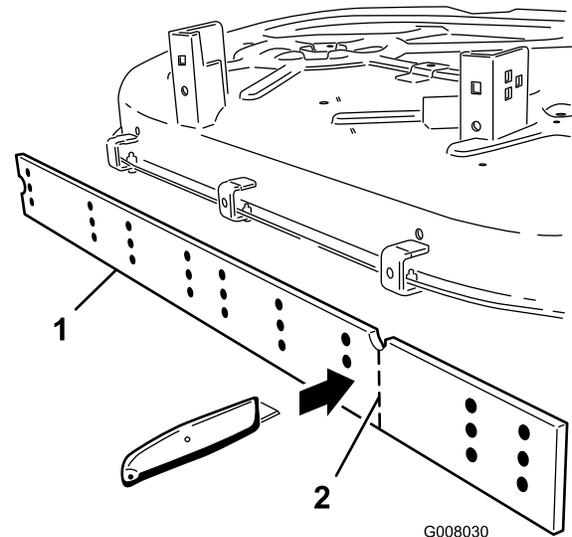

Figure 3
4. Cut the wiper at the notch as shown below with a suitable tool such as tin snips or retractable blade. Use caution when cutting through the tough material (Figure 3).